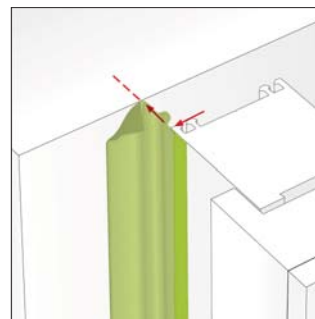

Fig. 1
- Bonding in 'E' format (Fig. 1):- peel off the protective split liner of the self-adhesive on the side of the membrane facing the frame, allowing some slack in the membrane retained within the joint.